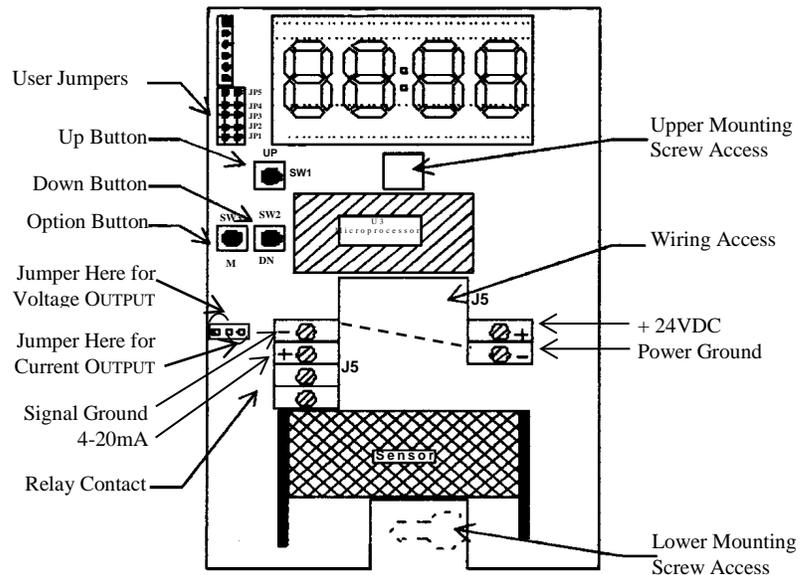

Figure 2: CD-1300-ST Series Component Location
To open the CD-1300-ST series use a coin in the slot on the bottom to release the snap. Lift the cover up slightly to disengage the closure and remove cover with a downward motion to clear the catch at the top of the unit. The locations of controls and terminals on the main circuit board are shown in the Figure 2.
The **CD-1300-ST** series will operate from an AC or DC input voltage between the values called out in the specifications in section 2.2. The power supply leads are connected to the two-terminal power connector shown in Figure 2.
Operation at voltages higher than specified will damage the unit and void the warranty. When operating from DC power, the polarity of the power leads must be as shown in Figure 2. Reversed polarity connection will not damage the unit, but will make it inoperable until the connection is reversed.
The **CD-1300-ST** series provides either a 0 – 10 volts or a 4-20mA current loop output at the two terminals of the analog output connector shown in Figure 2. The type of analog output is determined by the setting of the analog output selector shown in Figure 2. The analog output of the CD-1300-ST Series is completely isolated from the power supply. The common outputs of multiple units can be connected with no interaction regardless of power supply hook-up.
NOTE: *whether the shorting block at jumper JP5 is covering both pins or only a single pin, then borrow the shorting block and slide it over the two pins of jumper JP4 (see Figure 2). The display (if present) will show 'SEL'*
NOTE: *whether the shorting block at jumper JP5 is covering both pins or only a single pin, then borrow the shorting block and slide it over the two pins of jumper JP4 (see Figure 2 Section 3.3). The display (if present) will show 'SEL'.*
NOTE: *whether the shorting block at jumper JP5 is covering both pins or only a single pin, then borrow the shorting block and slide it over the two pins of jumper JP2 (see Figure 2 Section 3.3). Use the 'UP' and 'DOWN' buttons to change the concentration to the value just calculated.*
2. If there is no display on the unit being calibrated, connect a current or voltmeter to the analog output terminals. Check the setting of the analog output selector (see Figure 2 Section 3.3) to determine whether the unit is set for voltage or current output.
NOTE: whether the shorting block at jumper JP5 is covering both pins or only a single pin, then borrow the shorting block and slide it over both pins of jumper JP2 (see Figure 2 Section 3.3).
4. If the reading differs by more than ± 75 ppm from the known concentration of the calibration gas, use the 'UP' and 'DOWN' buttons (see Figure 2 Section 3.3) to adjust the reading.
The set point value is adjusted by closing jumper JP3 (see Figure 2 Section 3.3). If the display is present when JP3 is closed it will show the current high limit set point in ppm CO₂.